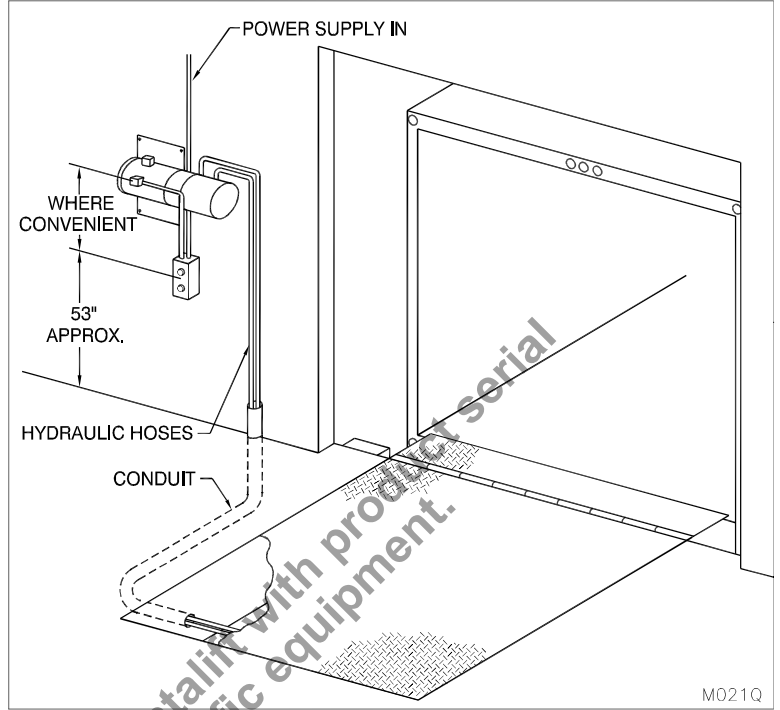

Figure 11: Power Unit Installation
- If the hose(s) are to be routed through conduits make sure that the conduits are of a suitable inside diameter and that if there are bends in the conduit that the bends have sufficient radius for the size of hose(s) to be routed through the conduit (See “Figure 11: Power Unit Installation” on page 24).
6. ___ Power Unit Installation (see “Figure 11: Power Unit Installation” on page 24)